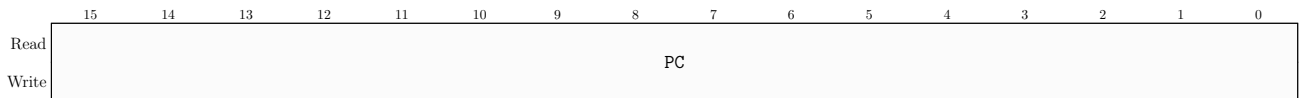

Figure 3-2: Program Counter Register
The Program Counter Extension maps the PC into the function register space. The Program Counter Register (PC) (see Figure 3-2) always reads the PC of the current instruction. Write accesses are not supported. With the help of this extension, the N1 processor is able to perform relative jumps.